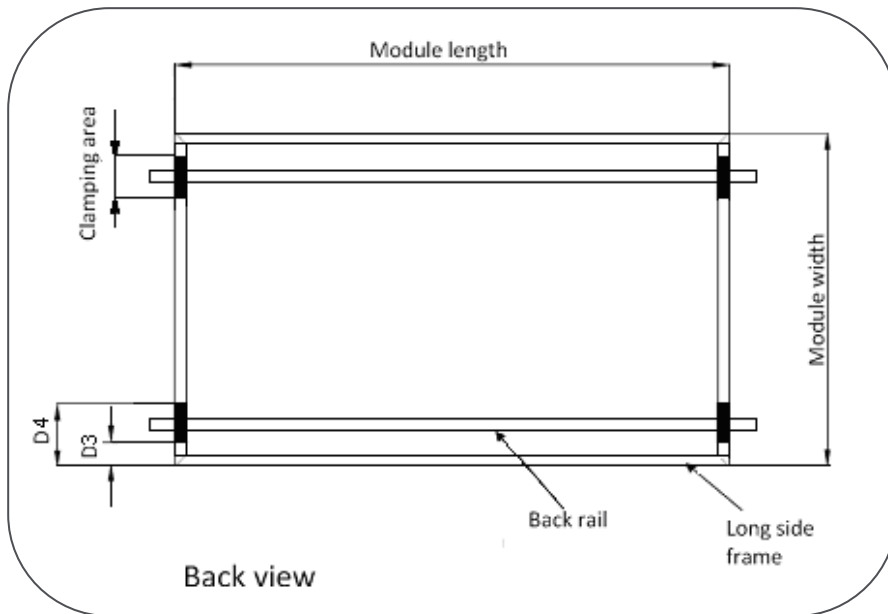

Figure 4 Effective mounting area (clamping)
- Clamping on shorter side frame: The side frames are attached to the shorter sides of the module. Figure 4 shows effective mounting area.